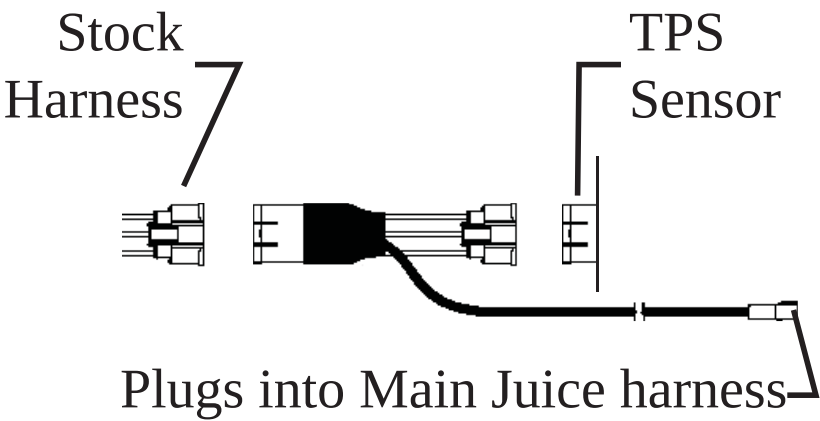

FIGURE 13 - “T” Assembly
3. Connect the TPS connectors in between the stock harness and the sensor as shown in Figure 13.